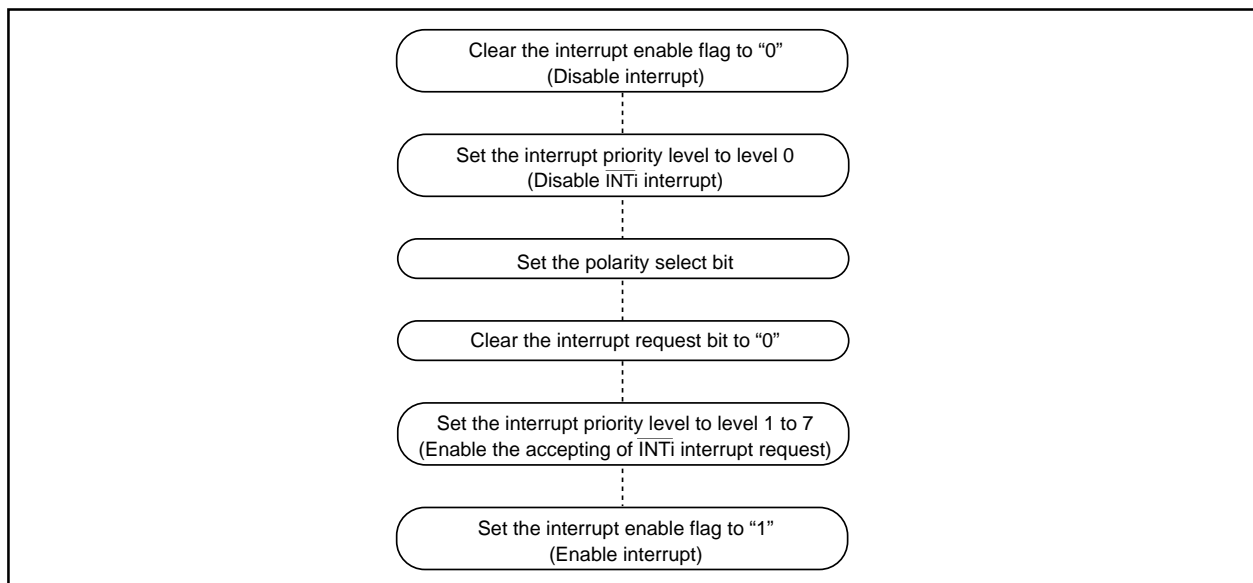

Fig.DD-19 Switching condition of INT interrupt request
(3) The $\overline{\text{NMI}}$ interrupt
(4) External interrupt
- When the polarity of the $\overline{\text{INT0}}$ to $\overline{\text{INT11}}$ pins is changed, the interrupt request bit is sometimes set to "1". After changing the polarity, set the interrupt request bit to "0". Fig.DD-19 shows the procedure for changing the $\overline{\text{INT}}$ interrupt generate factor.